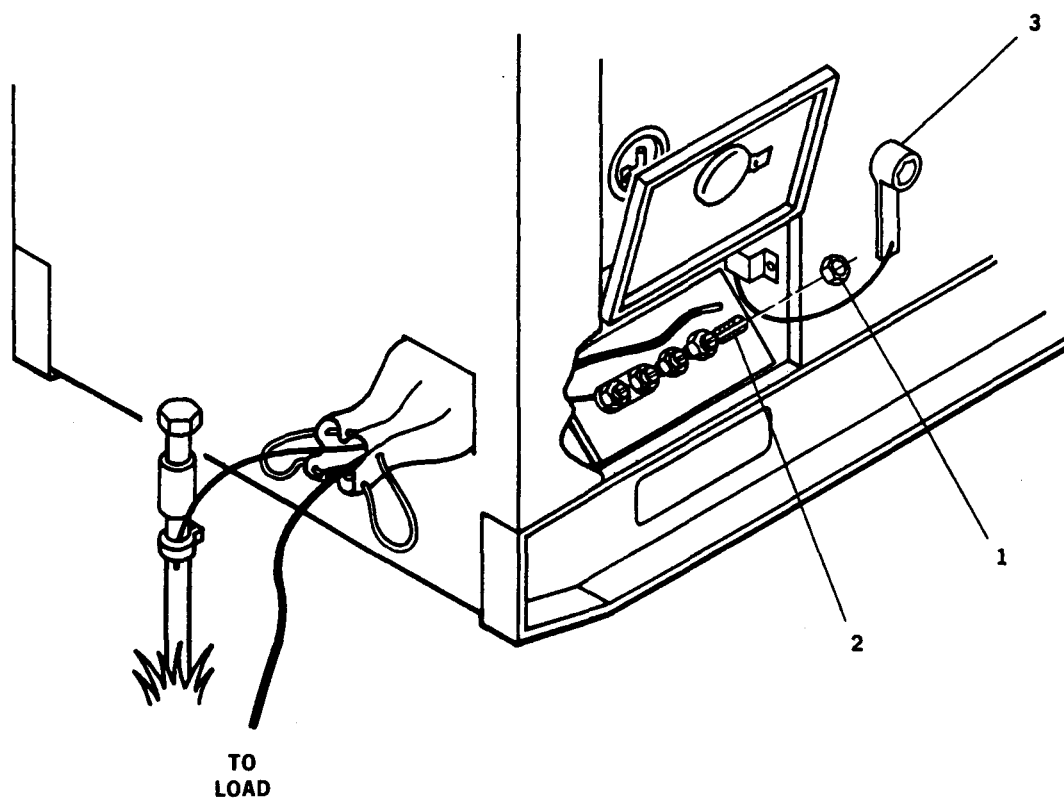

FIGURE 2-4. Installation of Load Cables
- d. Using terminal nut wrench (3, FIGURE 2-4) loosen terminal nuts (1) on terminals (2) selected in Step b.
- g. Secure wrench (3) in bracket inside load terminal board door, and close door.
- e. Insert ends of load cables through load cable entrance box. Insert ends of cables into slots of load terminal studs (2).
- f. Tighten load terminal nuts (1) .